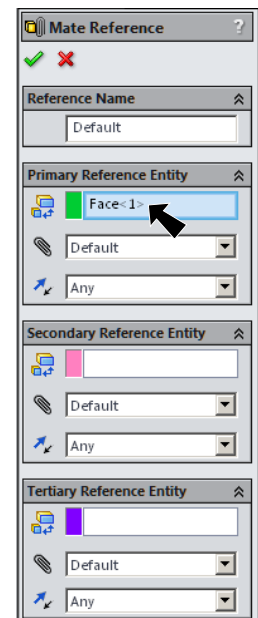

Fig. 20
Step 3. In the Mate Reference Property Manager click OK , **Fig. 20**.